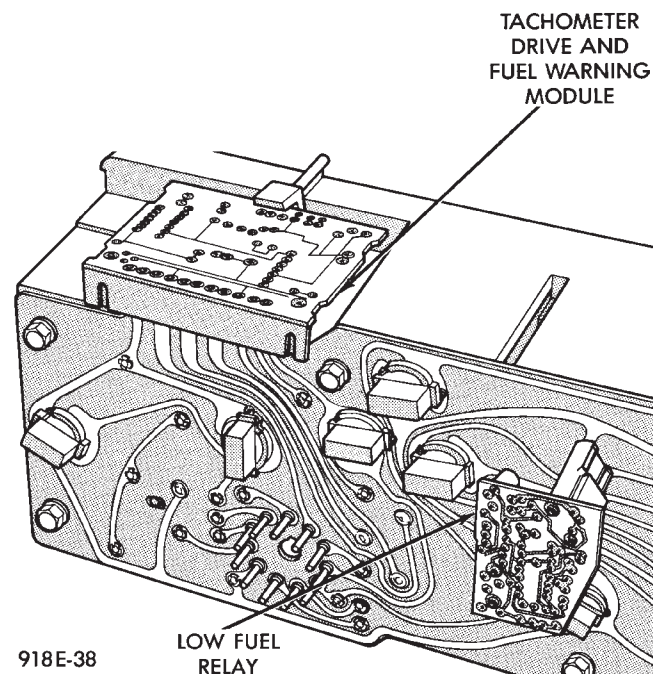

Fig. 32 Tachometer Drive and Low Fuel Warning Module
- (1) Remove cluster assembly. Refer to Cluster Assembly Replacement.
- (2) Pull tachometer drive module from printed circuit board (Fig. 32).
- (2) Pull low fuel relay from printed circuit board (Fig. 32).
(3) For installation reverse above procedure. Use care when aligning module to printed circuit board.
(1) Remove cluster assembly.
(2) Remove tachometer drive module, low fuel relay and gauge alert module (Fig. 32).
(3) Remove all cluster lamps.